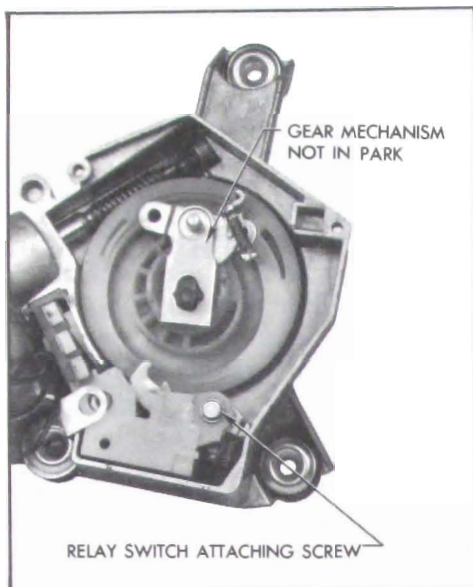

Figure 10-123—Removing Relay Switch Assembly
If wiper gear mechanism is away from park position (drive pawl away from latch arm (Figure 10-123), proceed to Step 3.
5. Install relay-switch mounting screw. See Figure 10-123.